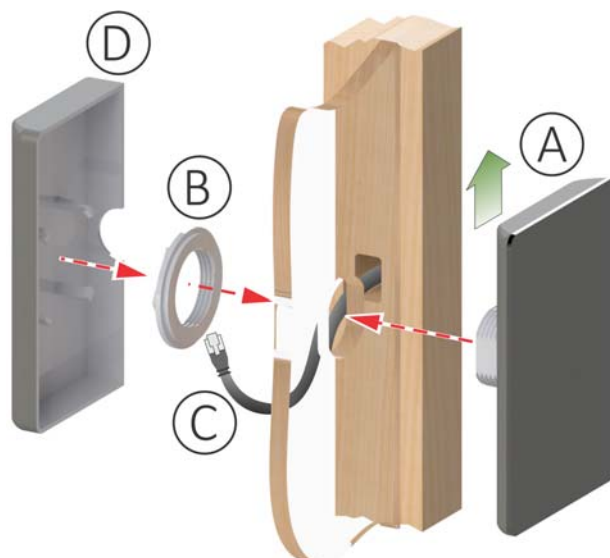

Figure 24. Installing the Control
1. Locate the keyed circular hole in the front glass for mounting the control. The control will mount on the exterior of the glass. See Figure 24. for the remaining steps.
2. Orient the UP arrow on the back of the control (A) and insert the threaded tube through the keyed circular hole in the glass.
3. Attach the control to the glass from the interior using the threaded retaining ring (B).
4. Connect the RJ11 control cable (C) to the female RJ11 jack located inside the threaded tube of the control.
5. Neaten up the control cable, then attach the back cover (D) over the threaded retaining ring (B).